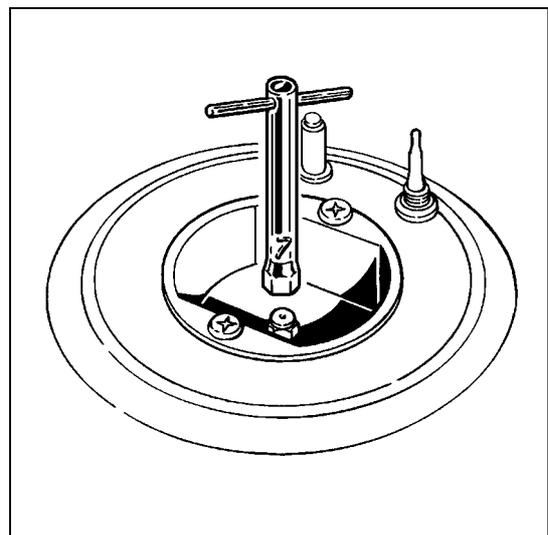

Fig. 3
- Unscrew the jets (Fig. 3) using the 7 mm. Key and replace them with the new ones (see table 1). Check the exact correspondence of the diameter indicated on the table with that printed on the jets.